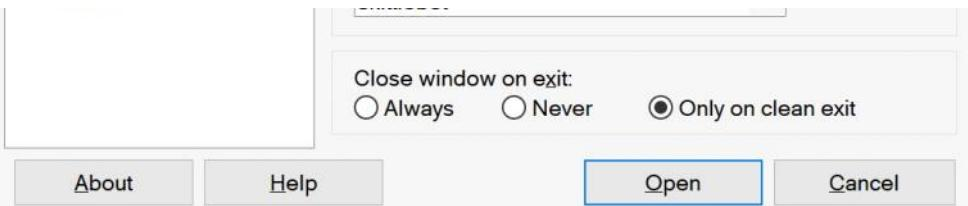

Figure 4.3 – Connecting to the Pi
1. Start PuTTY. You will see a screen like in *Figure 4.3*. In the **Host Name (or IP address)** box, type **raspberrypi.local** and click **Open** to log in to your Pi: